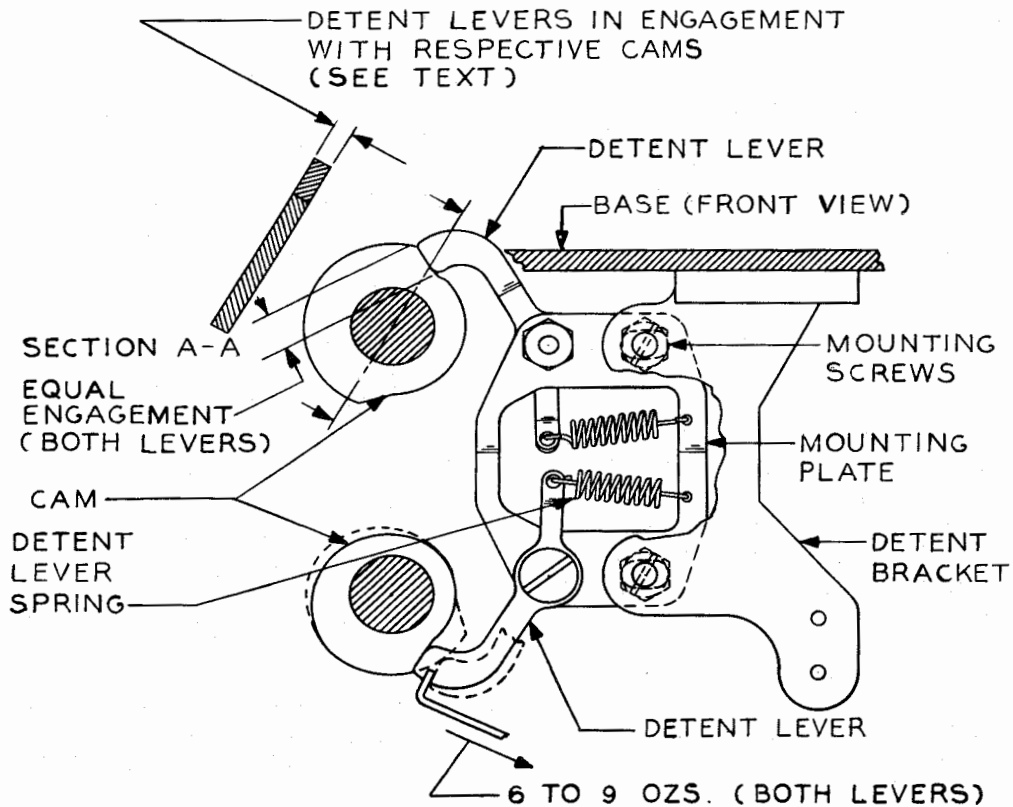

Figure 75
2.145 Detent Levers (Applies Only on Units Having TP115778 Adjustable Detent Mechanism): The detent levers shall engage their respective cams by at least $\frac{2}{3}$ the width of the cams when the play in the detent levers is taken up to make this engagement a minimum. See Figure 75.
2.146 Detent-lever Plate (Applies Only on Units Having TP115778 Adjustable Detent Mechanism): With both clutches in their fully disengaged positions there shall be a maximum and approximately equal amount of engagement (for both levers) between the detent levers and their respective cams. See Figure 75.
2.147 Detent-lever Spring (Applies Only on Units Having TP115778 Adjustable Detent Mechanism): With the detent levers resting on the high part of their cams, hook a scale over the cam end of the lever and pull at a right angle as nearly as possible to the levers. It shall require a pull as indicated in Figure 75 to start the levers moving away from their cams.